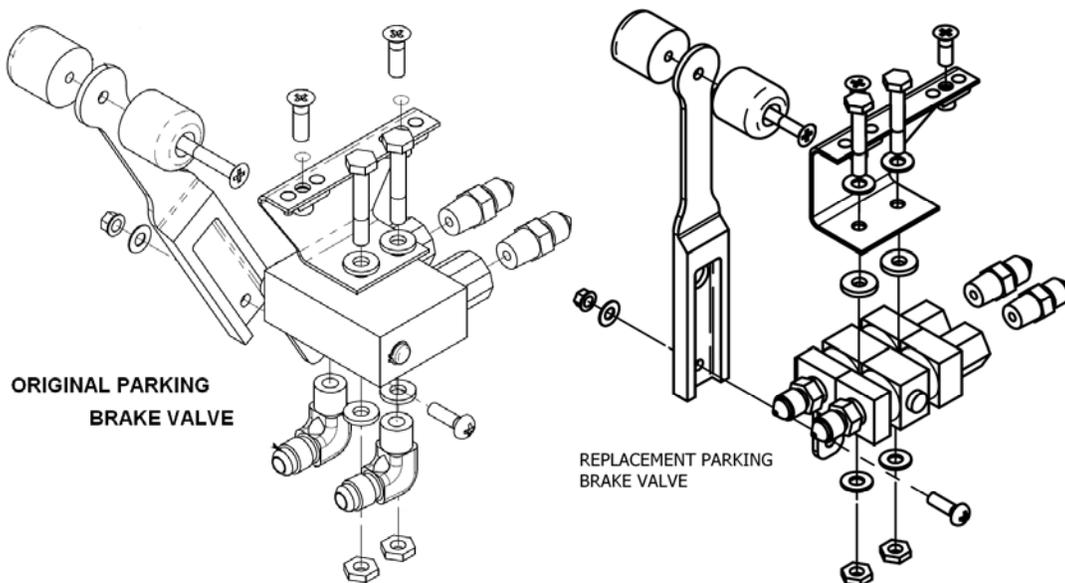
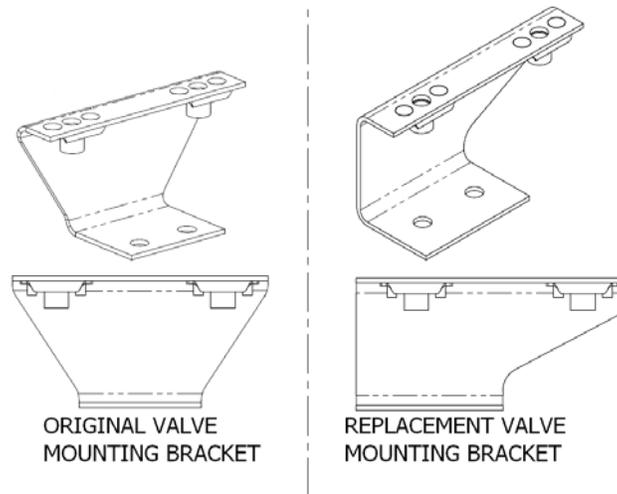

Figure 32-22 Parking Brake Valve
Figure 32-23 Differences Between the Original and Replacement Mounting Bracket
The airplane can come with one of two different valve assemblies (valve, adapters, mounting bracket, and hardware) for the parking brake. These assemblies are functionally interchangeable. However, do not replace the later valve assembly with the earlier assembly. The earlier valve is no longer available. The mounting bracket for the valve is also different. When replacing the original valve with a replacement valve, the mounting bracket must also change. Figure 32-22 shows the difference between the two valves, adapters, associated brackets, and hardware. Figure 32-23 shows the differences between the two mounting brackets.
1. Build up parking brake unit with four straight adapters; apply adequate Loctite® 545 to pipe thread, reference detail above see Figure 32-23. Do not allow the Loctite to go onto the last two threads of the adapter.